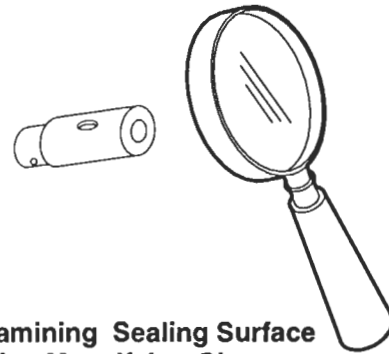

Figure 20. Examining Sealing Surface with a Magnifying Glass
- a. Check the bushing lapped sealing surface for scratches, the bushing internal diameter for scoring and the condition of the dowel pin and check for corrosion or varnish (Figure 20.)